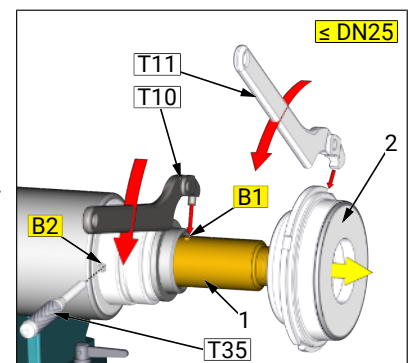
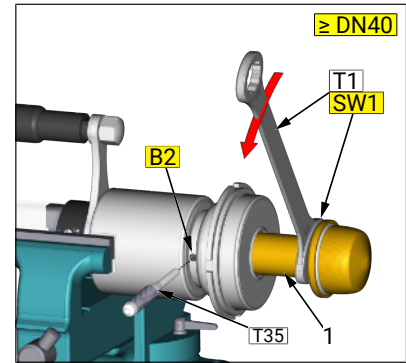

Figure 3
Figure 4
- Fig. 3: Dismounting via bore (B1) (\leq DN25).
- ⇒ So that the bore (B1) will be visible, first unscrew the insert (2).
- Fig. 4 Dismounting via spanner flat (SW1) (\geq DN40).